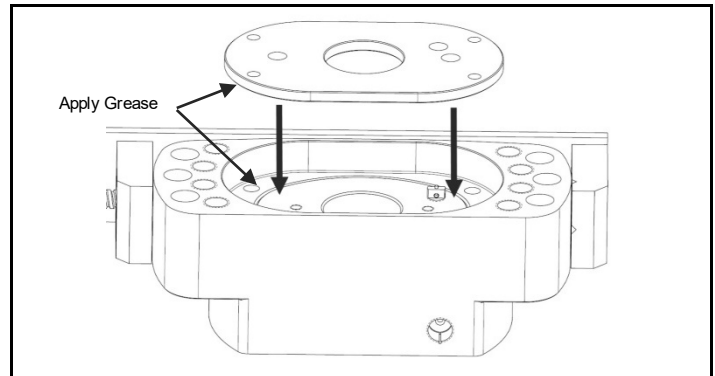
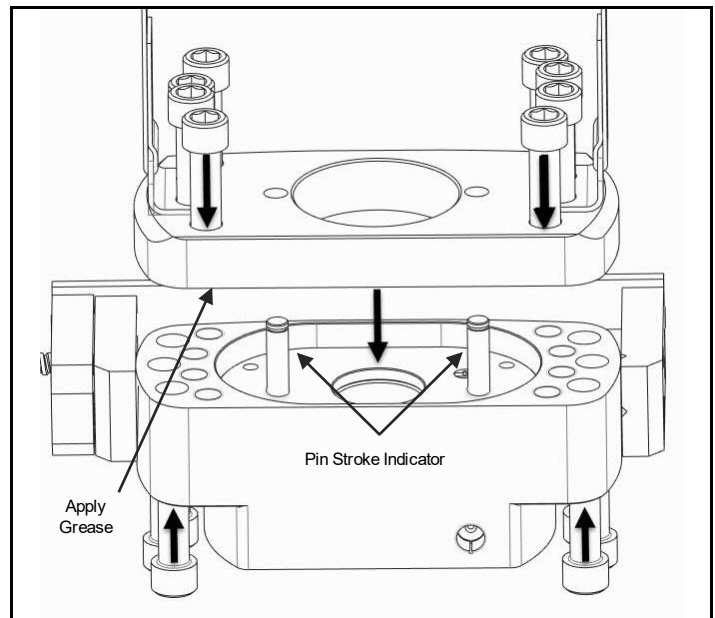

Fig. 4.10 Apply grease, insert relief valve assembly, secure under spring retention plate
Fig. 4.11 Apply grease, insert pin stroke indicator, secure limit plate to body
- Ensure that the alignment of the relief valve assembly and pin stroke indication is maintained during assembly. (Fig. 4.10/ Fig. 4.11)